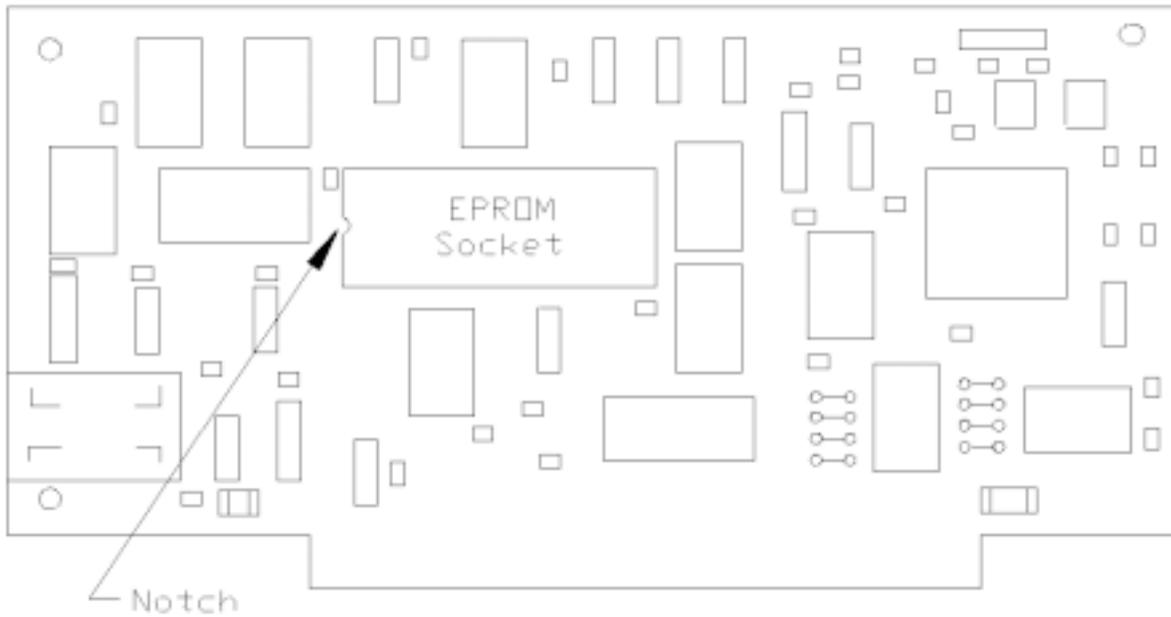

Figure 10-2
1. Place the card on the work surface with the component side up and the card edge connector pointing toward you. Figures 10-2 and 10-3 show the location of the major components on the MX (or MV or MS) card and the location of the EPROM socket.
Location of EPROM for MX, MS, or MV Cards (same as Figure 10-2)